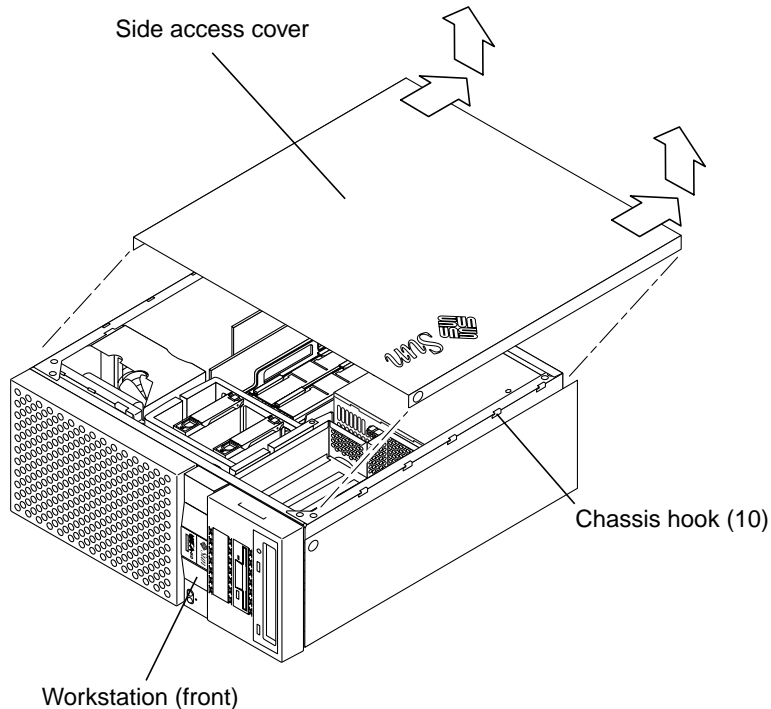

FIGURE 3 Removing the Side Access Cover
2. **Remove the side access cover as follows (FIGURE 3):**
2. **Replace the access panel (FIGURE 3).**